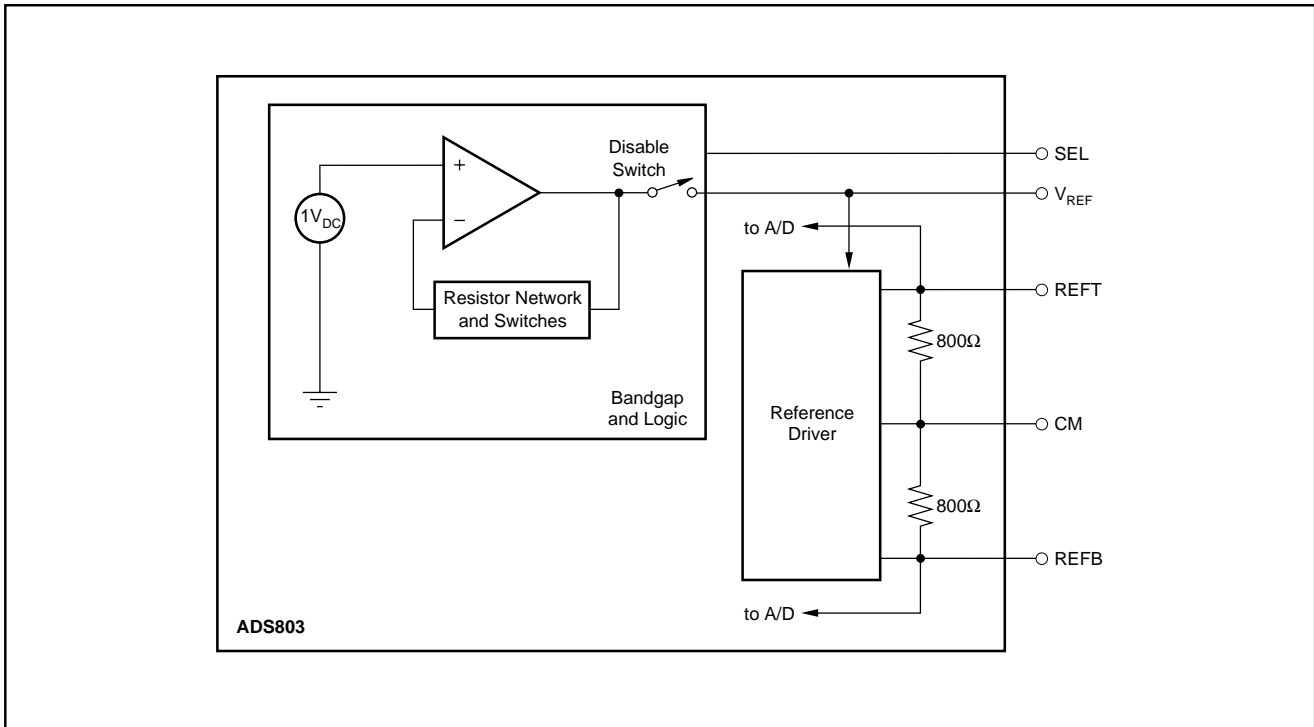

FIGURE 4. Equivalent Reference Circuit.
A simple model of the internal reference circuit is shown in Figure 4. The internal blocks are a 1V_{DC}-bandgap voltage reference, buffer, the resistive reference ladder and the drivers for the top and bottom reference which supply the necessary current to the internal nodes. As shown, the output of the buffer appears at the V_{REF} pin. The full-scale input span of the ADS803 is determined by the voltage at V_{REF}, according to the equation (1):